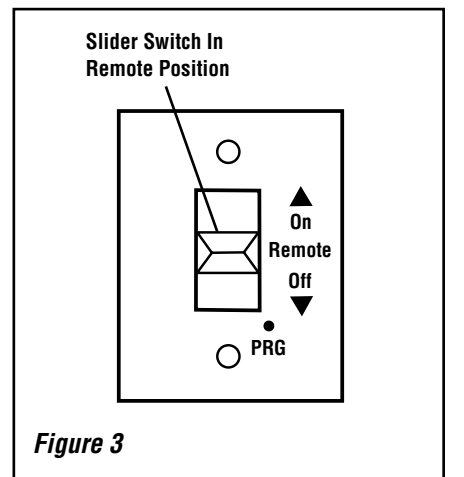

Figure 3
Place the three position slider switch in the "Remote" position (see *Figure 3*). Using the end of a paper clip, or other similar object, insert the end of the paper clip into the hole marked "PRG" on the Receiver front cover. The Receiver will "beep" three (3) times to indicate that it is ready to synchronize with a Transmitter.